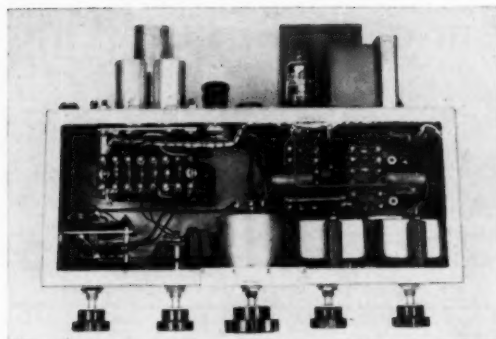

Fig. 3. The complete chassis of the preamplifier and equalizer control unit.
distinguish between the desired signal and the undesired pulse, in this case, would be a difficult task, as can be seen from (D). Here, the transient on the left was produced by a tape hole; the disturbance on the right was the desired information in the form of a pulse modulating a 15-kc carrier. Under uncontrolled conditions, recognition would be practically impossible, since both the hole and the signal modulation occur at irregular intervals. The frustrating effect on signal recognition produced by holes in the tape is further illustrated by Fig. 3. Here can be seen the same length of tape first as erased and then as recorded with a signal of 15 kc. Even the minor nodules create an unwanted effect.